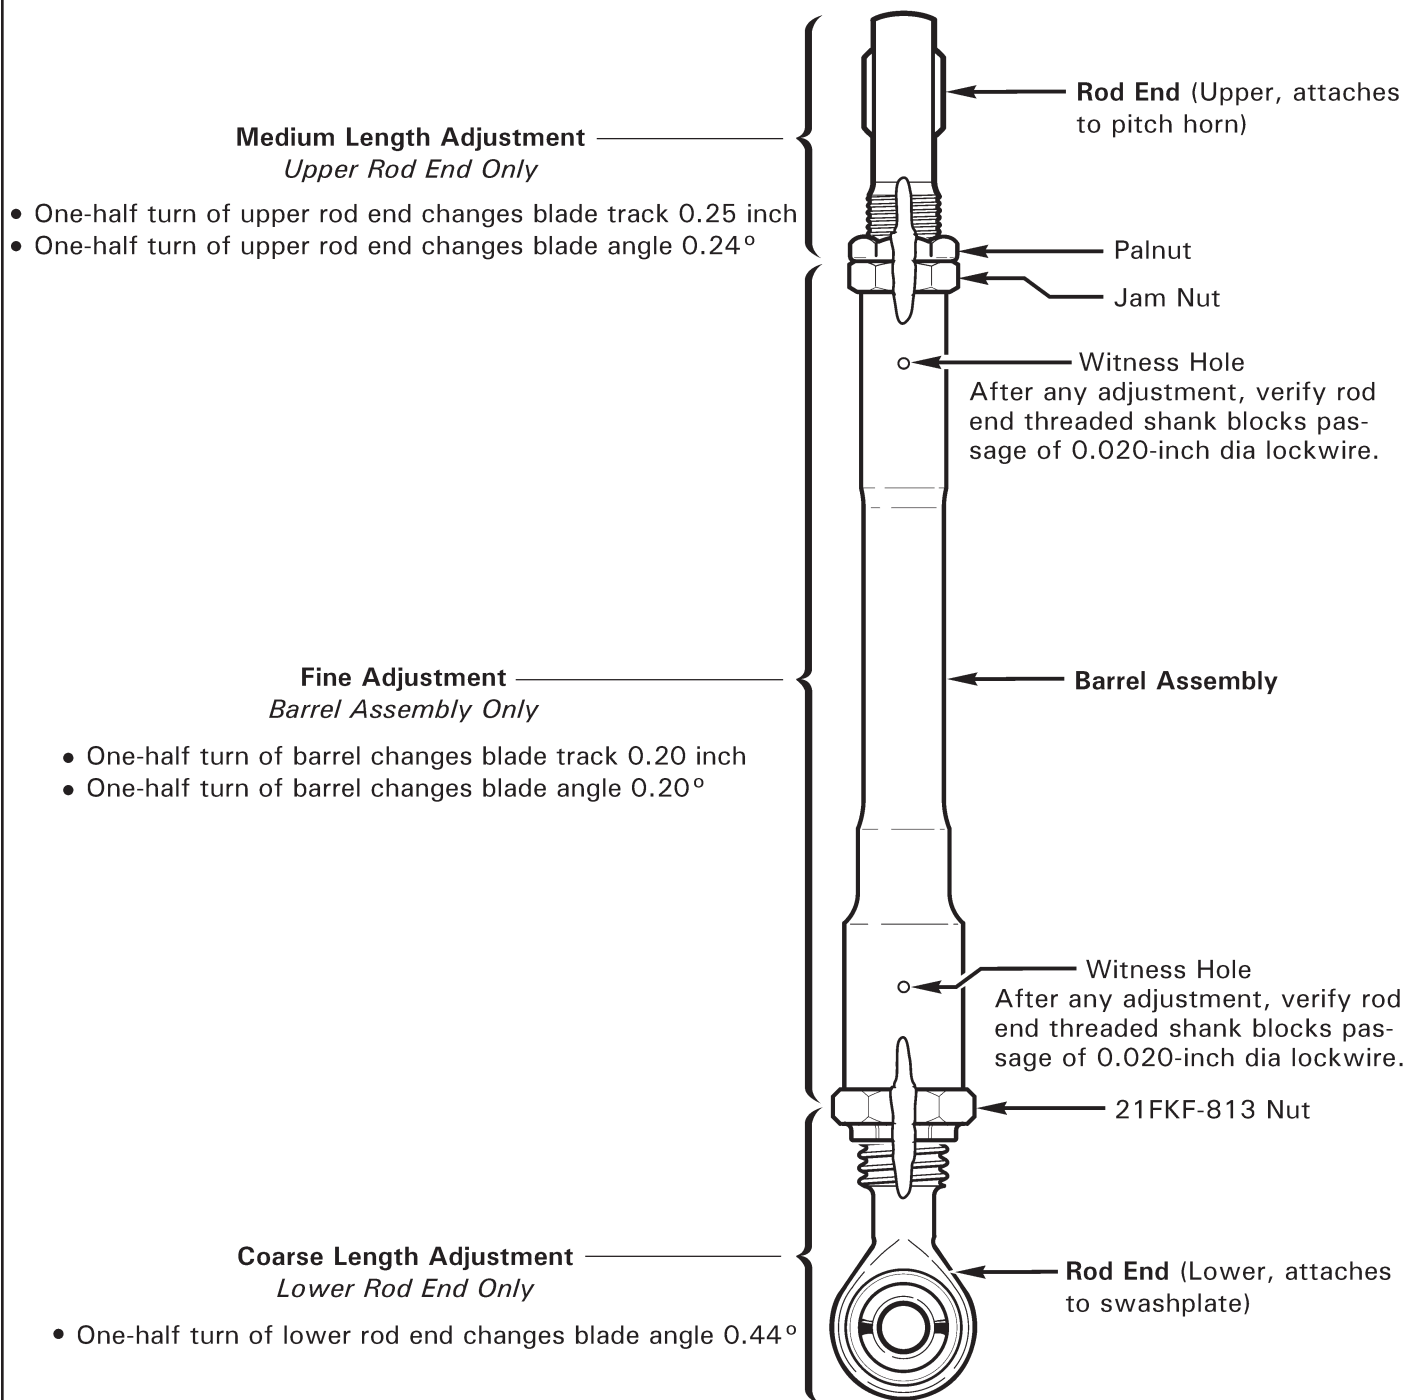

FIGURE 10-12A C258-5 MAIN ROTOR PITCH LINK
- i. Refer to Figure 10-12A. Using backup wrench on barrel assembly, loosen 21FKF-813 nut at lower rod end, and upper rod end palnut and jam nut.
- a. Refer to Figure 10-12A or 10-12B. Using backup wrench on barrel assembly or fitting, loosen upper rod end palnut and jam nut. Remove hardware securing rod end to pitch horn.
- i. Refer to Figure 10-12A. Using backup wrench on barrel assembly, loosen 21FKF-813 nut at lower rod end. Remove hardware securing lower rod end to swashplate.